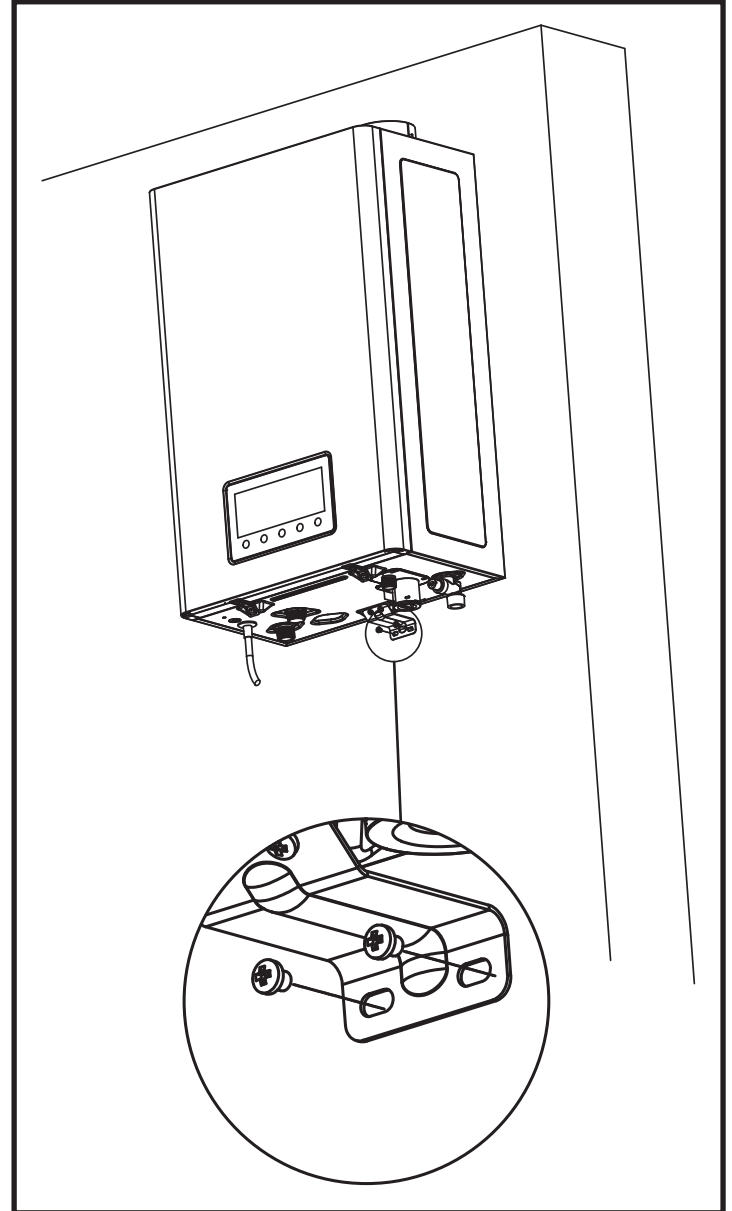

Fig. 6.5
4. Secure the lower bracket, installed on the water heater in a previous step, to the wall with screws. (See Fig. 6.5)